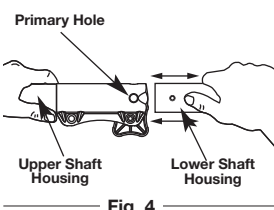

Fig. 4
3. While firmly holding the upper shaft housing, pull the lower shaft housing straight out of the EZ-Link™ coupler (Fig. 4).
2. While firmly holding the add-on, push it straight into the EZ-Link™ coupler (Fig. 4).